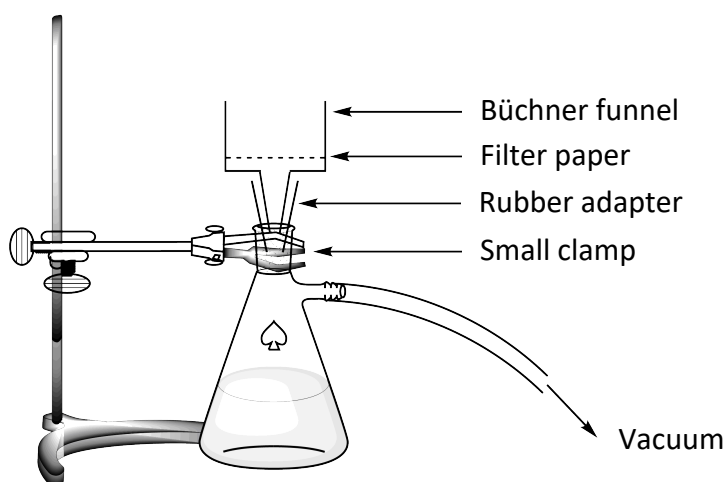

Figure 2. Setup for the vacuum filtration
7. **Set up** the vacuum filtration apparatus (see Figure 2) using a Büchner funnel, a filter paper and a side arm flask, that is secured with a small clamp. **Raise** your HELP card. A lab assistant will come and show how to connect the side arm flask to the vacuum.